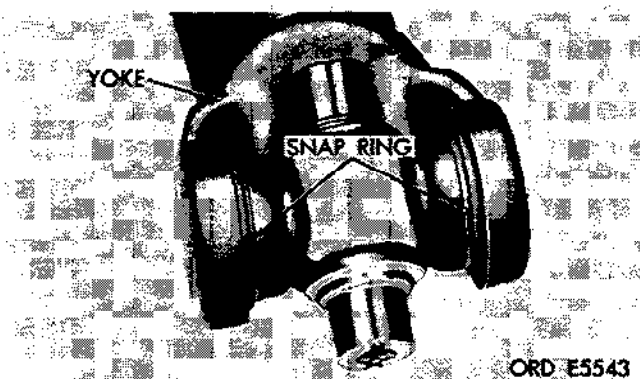

Figure 2-294. Remove snap rings from yoke.
(1) Slip two loose cross bearings and grease seals from cross.
(2) Remove two cross bearings snap rings from yoke (fig. 2-294).